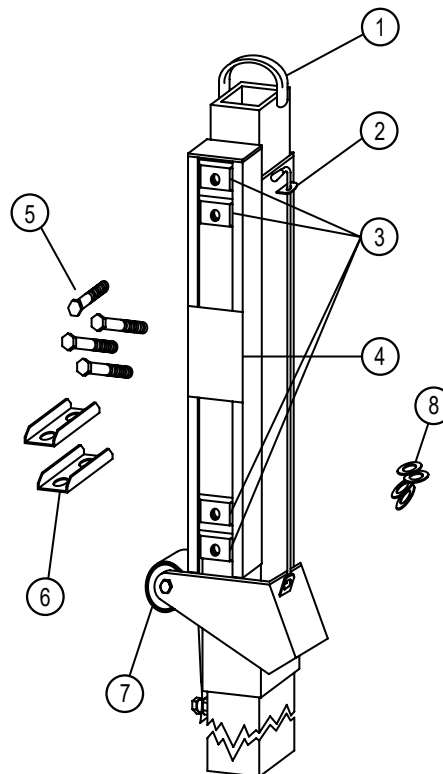

FIG. 5
The spring loaded safety post comes fully assembled. Included are two (2) mounting brackets, four (4) 2" stainless steel bolts, four (4) spring nuts and eight (8) stainless steel washers. (Fig. 5)